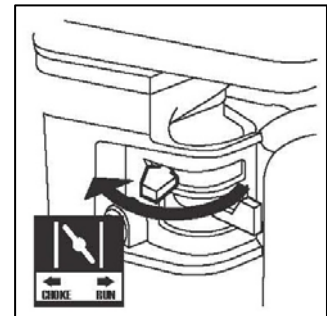

Figure 5
5. Turn the fuel valve to the “ON” position (see figure 5).